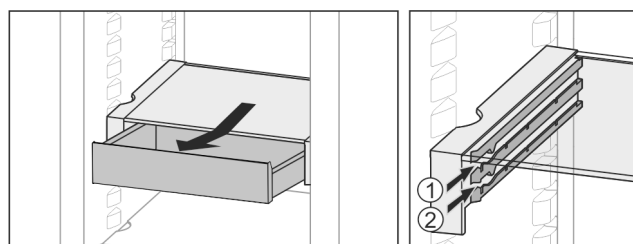

Fig. 31
- ▶ Slide back at the height you want *Fig. 31 (1)* or *Fig. 31 (2)*.